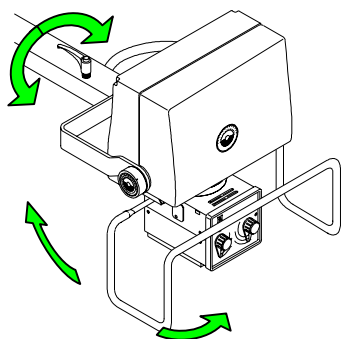

Figure 4
- Place the monobloc - collimator group vertically and activate its rotation safety lock (see Figure 4).